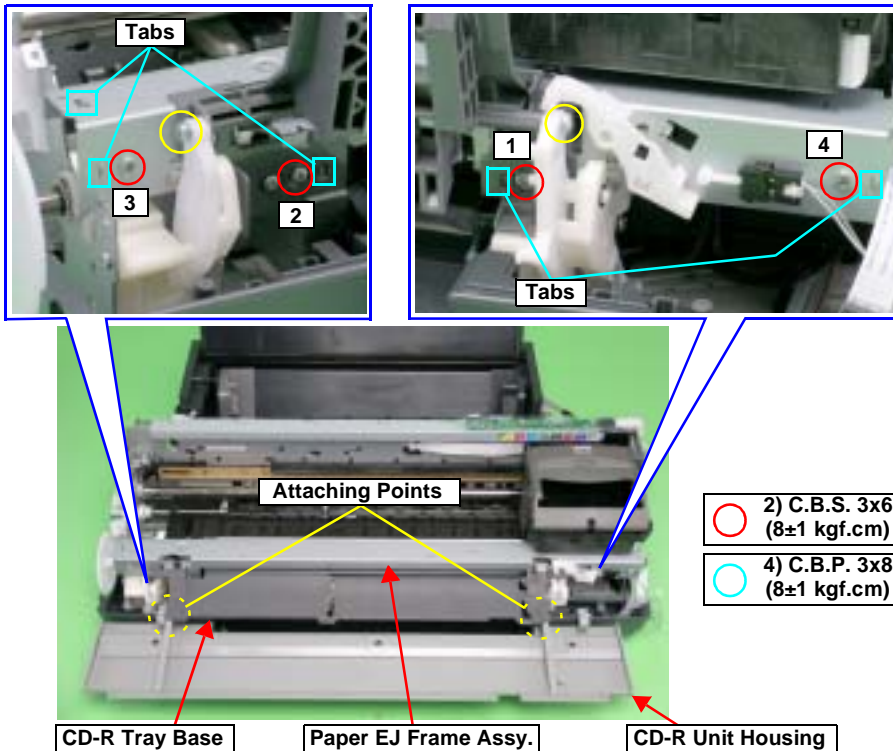

Figure 4-83. Screws that Secure the Paper EJ Frame Assy
- Match the Tabs with the five Positioning Holes. See Figure 4-83.